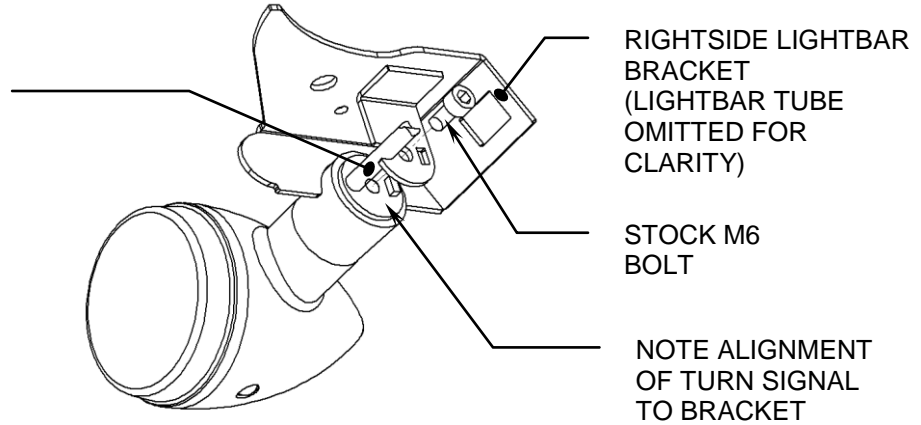

FIGURE 1
5. Install the turn signals onto the Cobra light bar, be sure to install the turn signals on the side they were taken from, with the M6 allen bolts removed in Step 4, see Figure 1. Be careful not to pinch the wires.